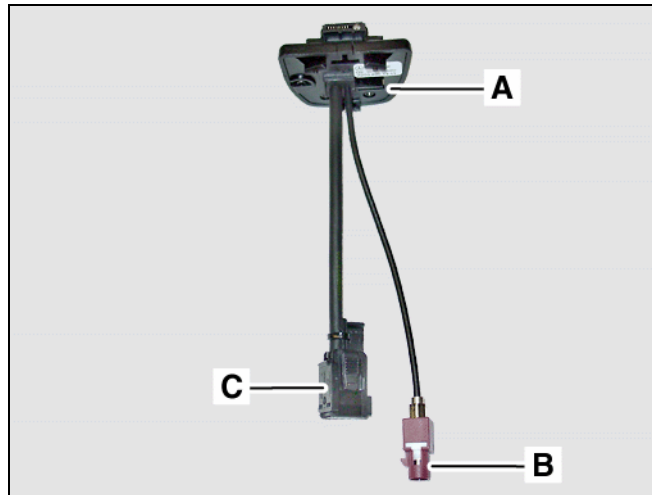

Figure 24
- Find the kit-included contact plate (A, Figure 24) and identify the FAKRA antenna male connector (B, Figure 24) and the power supply male connector (C, Figure 24).